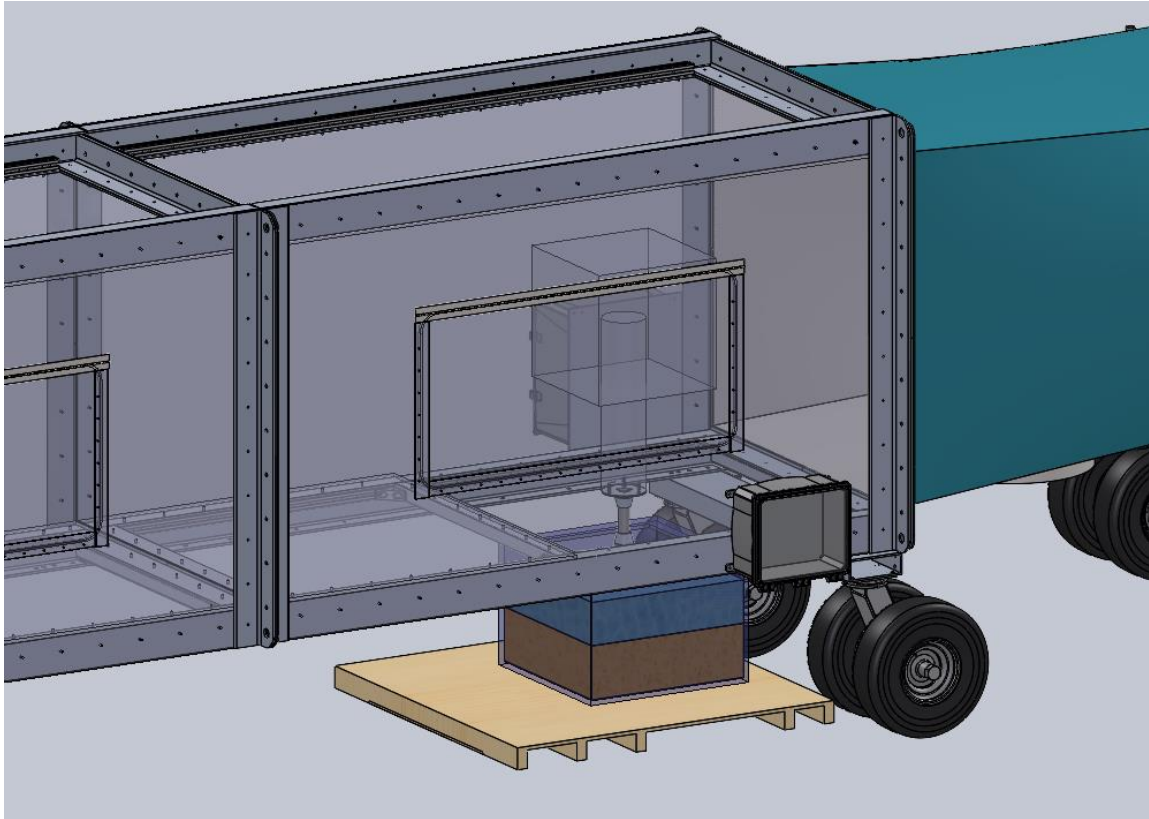
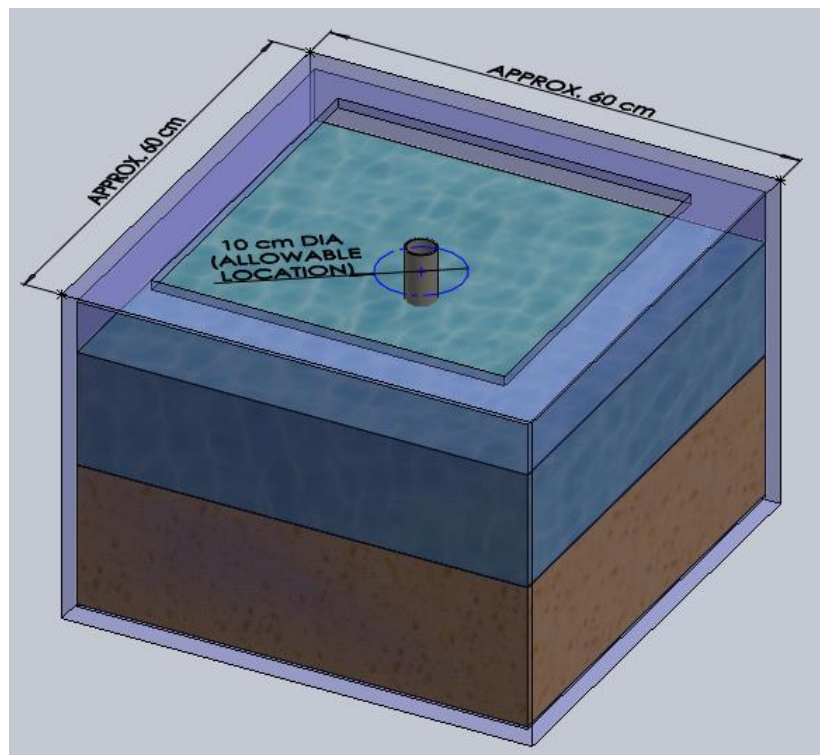
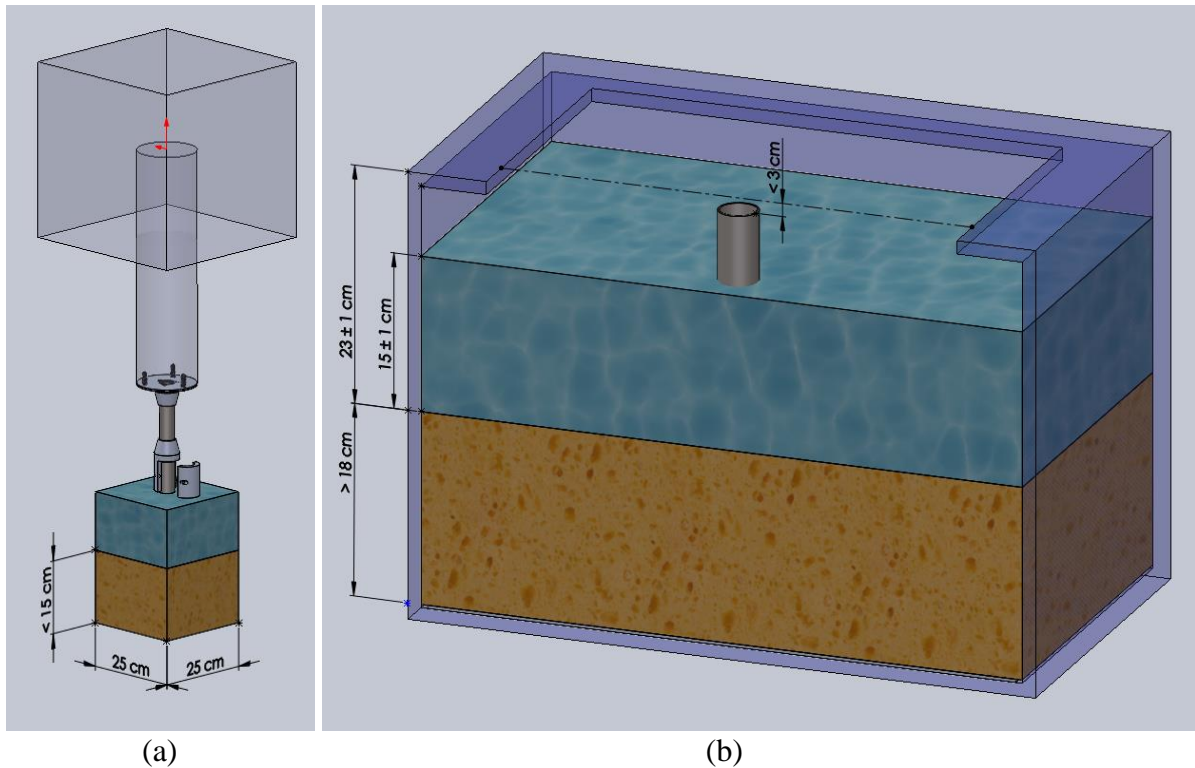

Figure 4. Offshore simulation tank underneath the competition wind tunnel
Figure 5. Offshore simulation tank
Figure 6. (a) Turbine, structure, and anchorage allowable volumes and (b) tank layout
- **New for this year**, the foundation structure and anchorage will be a primary focus of the competition and its theme. Students must design a structure to be installed into a water tank with a sand bed to simulate shallow-water, fixed-bottom offshore foundations. This foundation structure will be the sole source of support for the turbine. See Figure 4, Figure 5, and Figure 6.
- Students must assemble their foundation structure and anchorage such that the tubing at the top falls within a 10-cm circle, centered in the tank horizontally (see Figure 5).